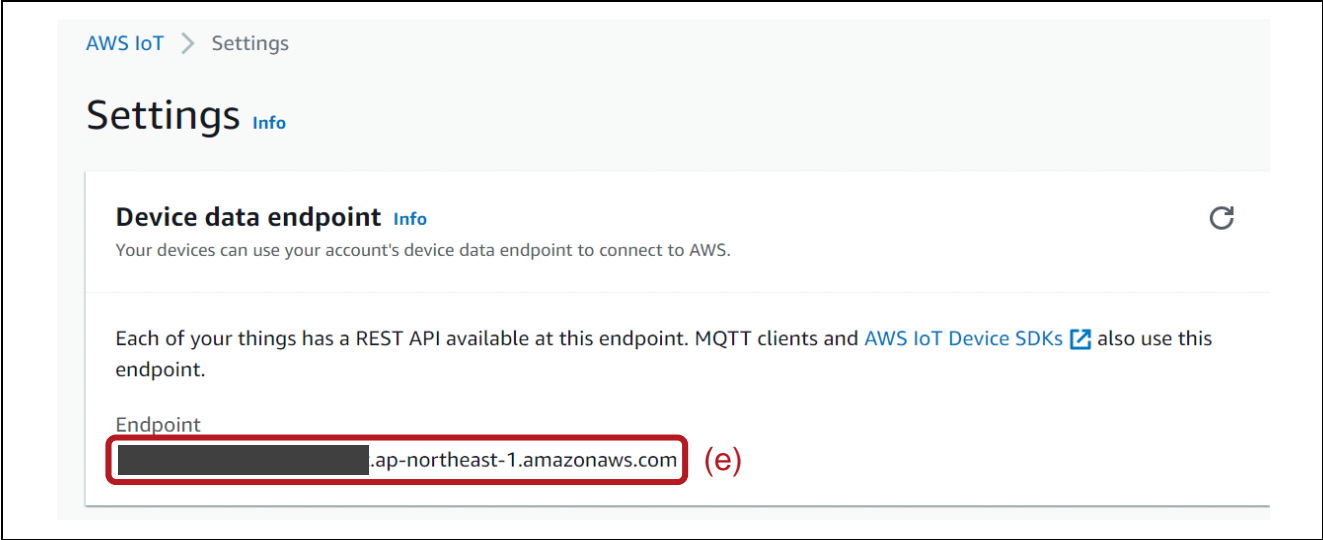

Figure 8-10 Check AWS Endpoint
- Select [Settings]. Make a note of the Endpoint. (Figure 8-10(e))
#define clientcredentialMQTT_BROKER_ENDPOINT "Figure 8-10 (e) The Endpoint"